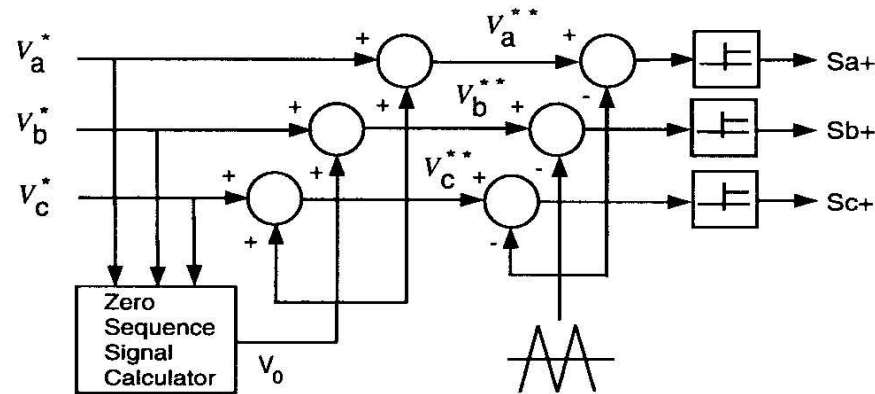

Fig. 4. The generalized signal block diagram of the triangle intersection technique-based PWM employing the zero-sequence injection principle.
- Implement the modulation types: SPWM, DPWM1, THIPWM and SVPWM in Simulink and use 'zero sequence signal calculator' the method is shown on Fig. 4.